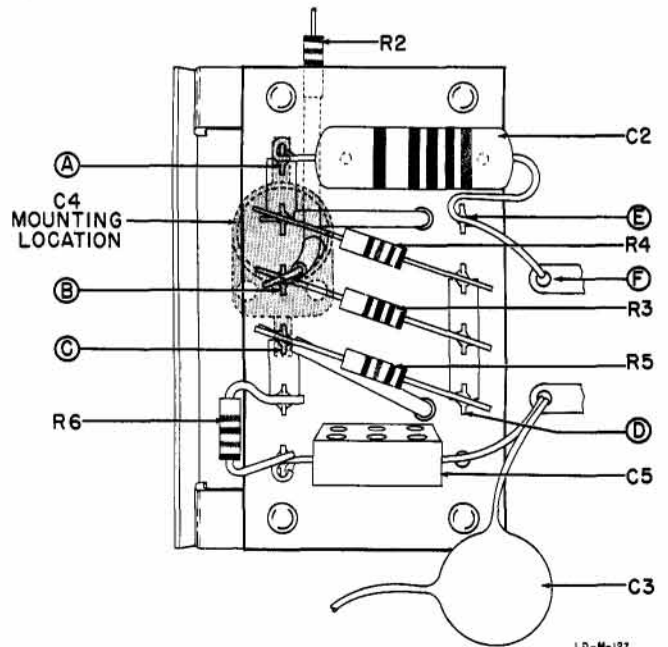

Figure 1. Input Resistor Board Before Modification
- 2) Disconnect and save the variable ceramic trimmer (C4) connected between terminals A and C of the resistor board. Refer to figure 1. This variable capacitor for C4 will be replaced before the modification is completed.
9) Resistor R6 is composed of three 10%, 1/2 watt, composition resistors connected in parallel and mounted as shown in figure 1. There should be two 10 ohm resistors and one 27 ohm resistor. Use the resistors supplied in the modification kit to replace any or all resistors for R6 that do not have this value.